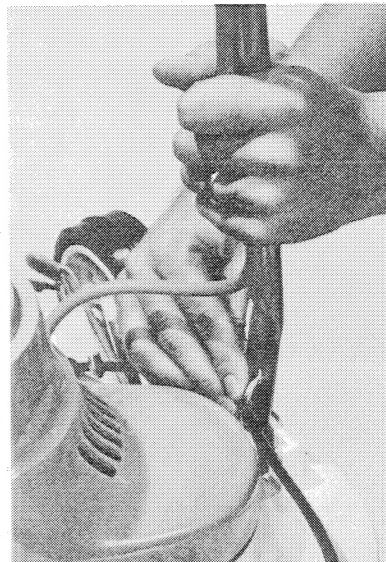
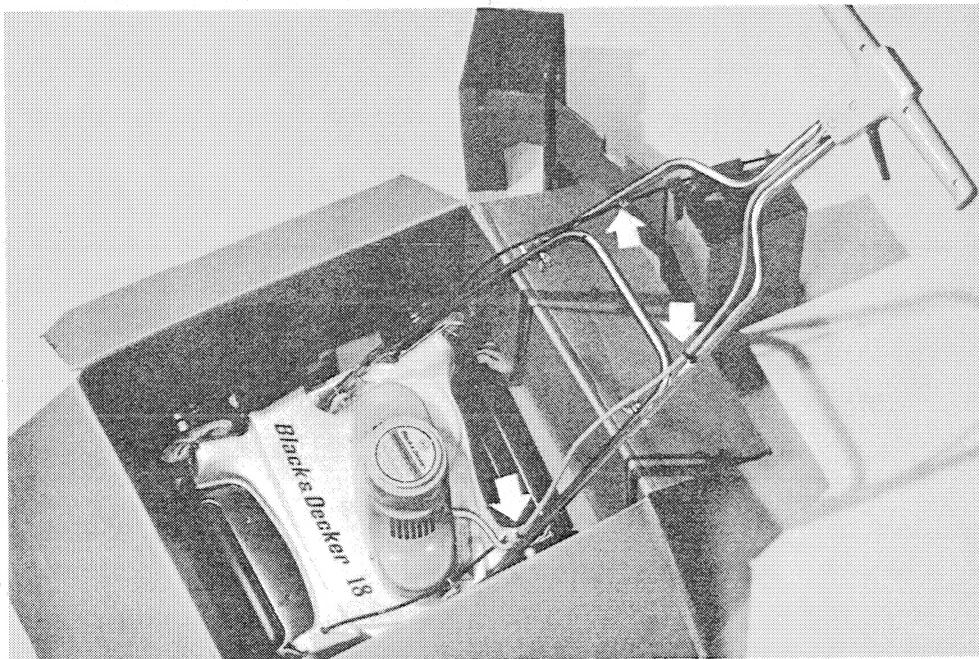
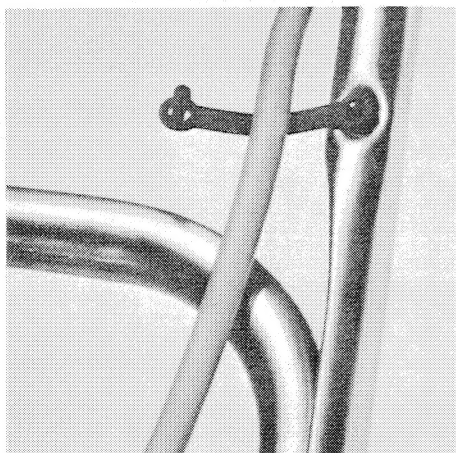
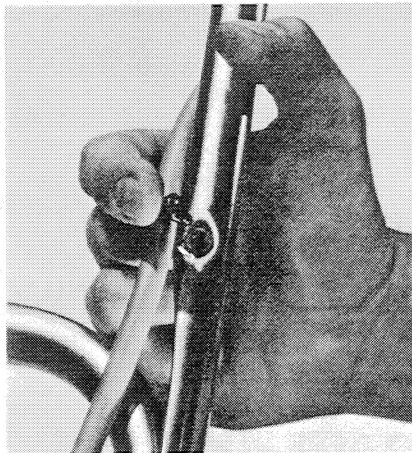

FIGURE 8A
FIGURE 6
FIGURE 7A
FIGURE 7B
- (4) Three plastic straps are used to hold the power cord and the safety latch cable close to the handle at locations indicated by arrows in Figure 6. To attach, push the larger of the two pegs on the straps into the hole in handle tube (Figure 7A). Push the strap around the cord and snap the smaller peg into the hole in the larger peg (Figure 7B).
- (5) Grasp lower handle tubes and lift mower out of carton.
- (6) Swing the handle to a vertical position and insert the "S"-Hook on the safety shield cable into the slot near the bottom of handle (Figures 8A and 8B).